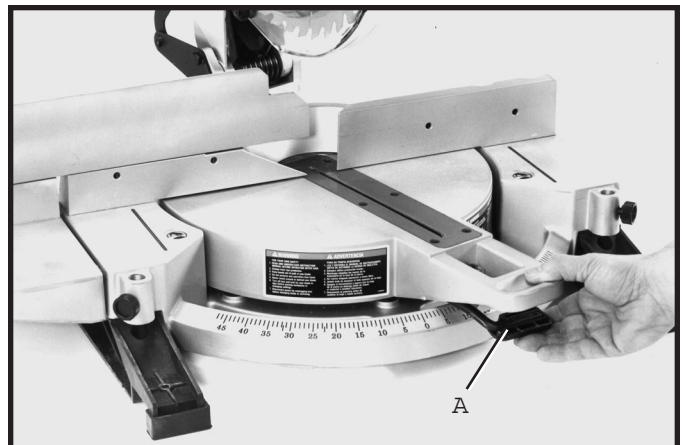

Fig. 17
1 Your compound miter saw will cut any angle from a straight 90 degree cut to 47 degrees right and left. Simply depress table lock lever (A) Fig. 17, and rotate the table to the desired angle. Then release table lock lever (A).
2 **IMPORTANT:** Table lock lever (A) Fig. 17, must be depressed when rotating the table. When lock lever (A) is not depressed, the table is in the locked position.